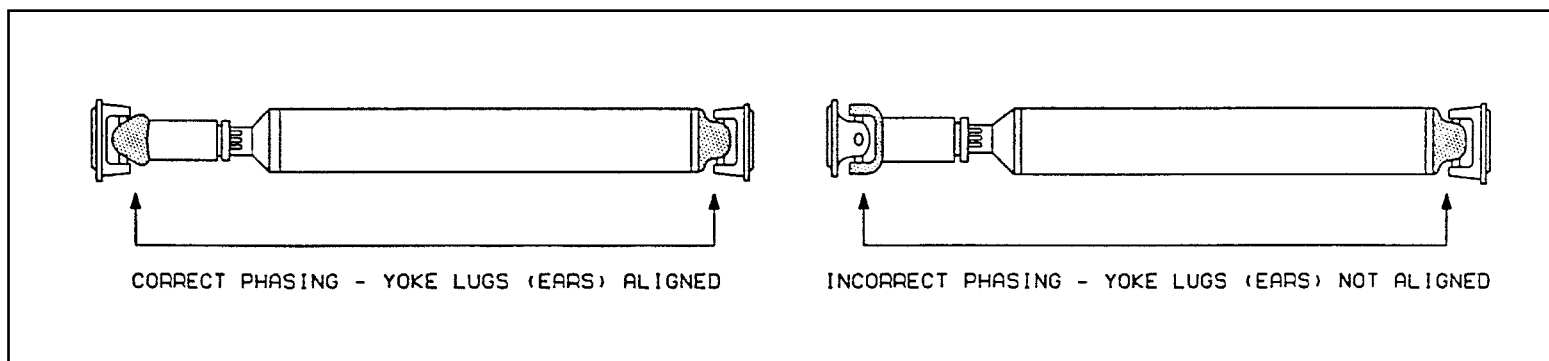
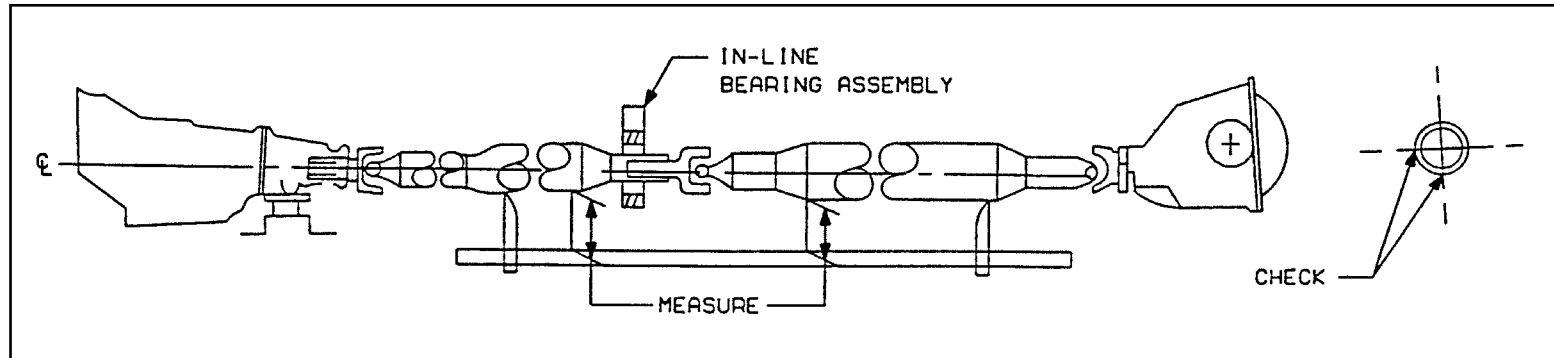

Figure 17
Figure 18
- SVMs should devise a gauge by which to measure driveshaft alignment angles for front and rear shafts. For smooth operation, the front must align with the rear shaft in both side and plan views (Figure 17). Check for this vertically and along the horizontal center line (Figure 18).
When an ordinary universal joint is operated at an angle, the driven yoke fluctuates slightly in speed as the joint rotates. That is, although the driving yoke rotates at a constant speed, the driven yoke speeds up and slows down twice per revolution. This fluctuation of the driven yoke is in direct proportion to the angle through which the universal joint is operating. The greater the angle, the greater the fluctuation. This fluctuation and resulting vibration can be eliminated by phasing the universal joints at each end of the shaft so that the alternate acceleration and deceleration of one joint is offset by equal and opposite accelerations of the other joint. Correct phasing is achieved by aligning the universal joint lugs on each end of the shaft (refer back to Figure 17).
To allow the propshaft to operate as smoothly as possible, make sure that the input universal joint is approximately equal and opposite to the output universal joint angle. That is, the downward angle (a) of the transmission output shaft, relative to the driveshaft axis must be equal to the downward angle (b) of the pinion as shown in Figure 18. (**Note:** Angles shown are exaggerated for clarity.) To allow the best compromise for the pinion angle as it changes because of vehicle loading, acceleration and ride motion, these angles are determined and set at the factory. This eliminates the need for adjustment by the SVM.